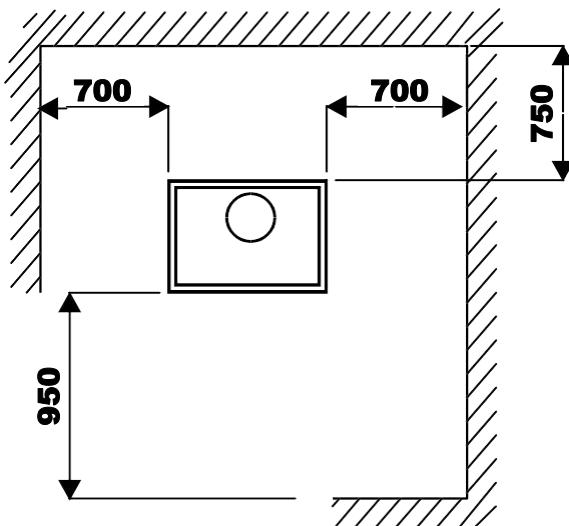

Fig. 3
- When installing the stove, observe the necessary safety distances for the oven and chimney from combustible surfaces (wooden or papered walls, wooden floors...). Safety distances must be respected when the lining on walls or nearby areas may be damaged or deformed by temperature (varnish, paint, PVC...), **Fig. 3.**